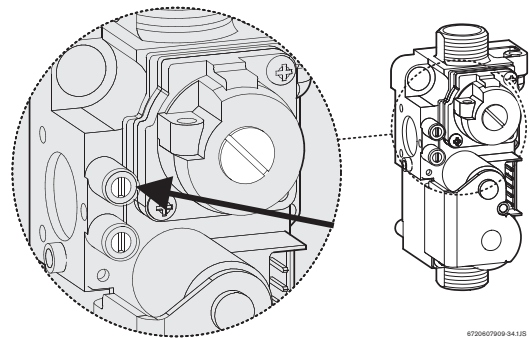

Fig. 30
- ▶ To confirm manifold pressure connect manometer to upper tapping on gas valve. See Fig. 30.